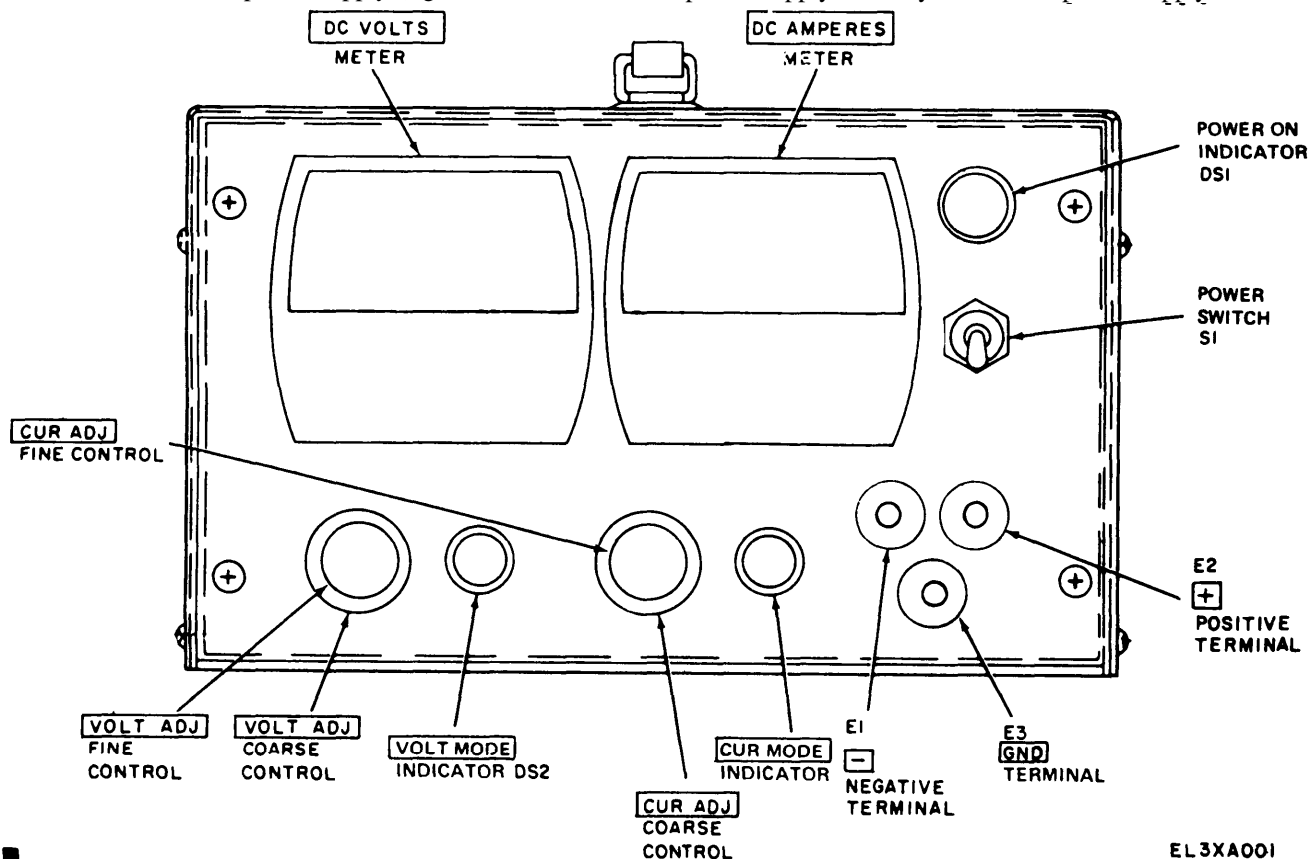

Figure 2-2. Power Supply PP-3940-A/G, Front Panel Controls and Indicators.
a. Set POWER switch S1 to off (fig. 2-2).
a. *Front Panel Controls and Indicators (fig. 2-2).*